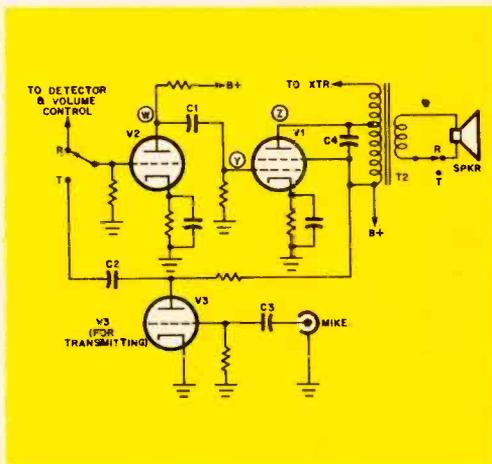

Fig. 3. Typical audio stage. With T-R switch on receive, mike preamp (V₃) is out of the circuit.
audio signal source. (Even an FM tuner will serve.) With the transceiver off, connect the signal source's ground lead to the transceiver chassis. Connect the hot lead through a .05 mf, 600-volt capacitor to the plate (Z) of audio output tube V₁, Fig. 3. A signal, although weak, should be heard in the speaker. Silence indicates a defective output transformer (T₂), speaker or C₄.